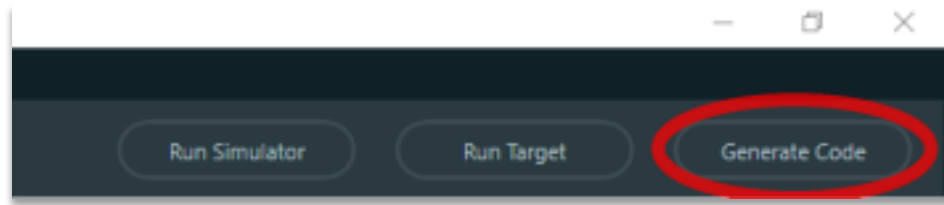

Figure 43
- The Generate Code button was then clicked in the upper-right corner of the TouchGFX Designer window (see Figure 43).